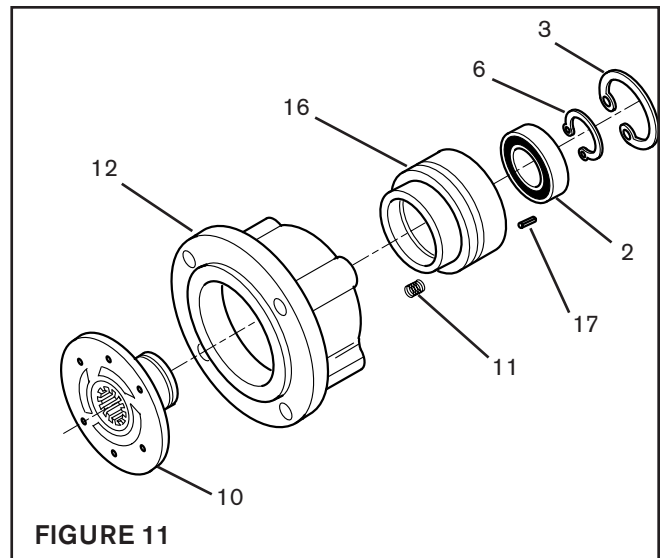

FIGURE 11
5. Remove Retaining Ring (Item 6) and press Splined Hub (Item 10) out of Piston (Item 16) (See Fig. 11).
6. Remove Retaining Ring (Item 3) and press Bearing (Item 2) out of Piston (Item 16) (See Fig. 11).
7. Align O.D. of new Bearing (item 2) with bore of Piston (Item 16) and press new bearing into piston.
NOTE: Make sure that Spring (Item 11) have been inserted Into correct holes of Air Chamber (Item 12) and Spring Pin (Item 17) Is aligned with hole In Male Pilot (Item 20) (See Fig. 11).